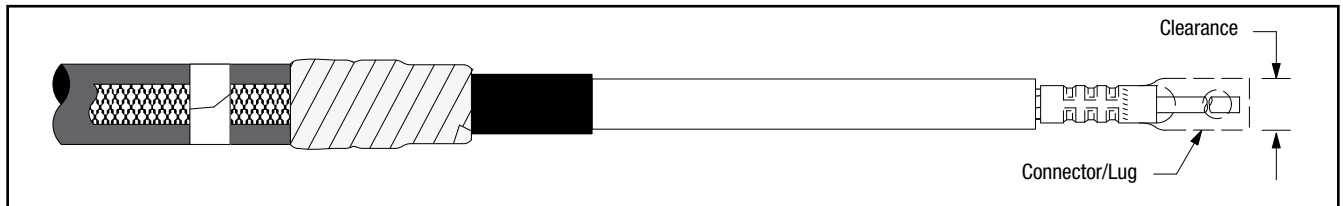

Figure 6
4.1 Check to insure 3M™ Cold Shrink QT-III Silicone Rubber Termination assembly fits over the selected lug or connector. (Figure 6) will not fit through the termination core, clean the insulation (per Step 5.0) and slide termination on cable before installing lug or connector. **DO NOT REMOVE CORE AT THIS TIME.**